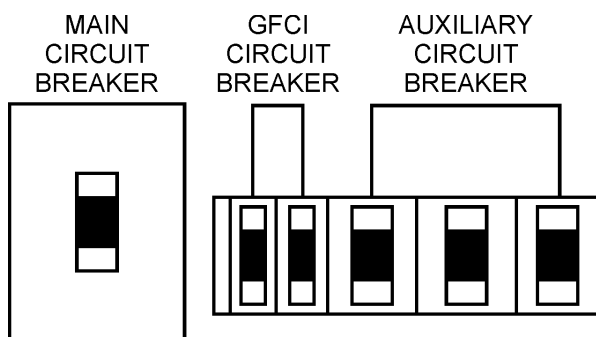

Figure 38. Main, Aux. and GFCI Circuit Breakers (OFF)
1. Place the **main, G.F.C.I.**, and **aux.** circuit breakers (Figure 38) in the **OFF** position prior to starting the engine.
1. Place both the **MAIN**, **GFCI** and **LOAD** circuit breakers as shown in Figure 38 to the **OFF** position.
1. To shut-down the engine in the event of an emergency, switch the **MAIN**, **GFCI** and **LOAD** (Figure 38) circuit breakers to **OFF** position.